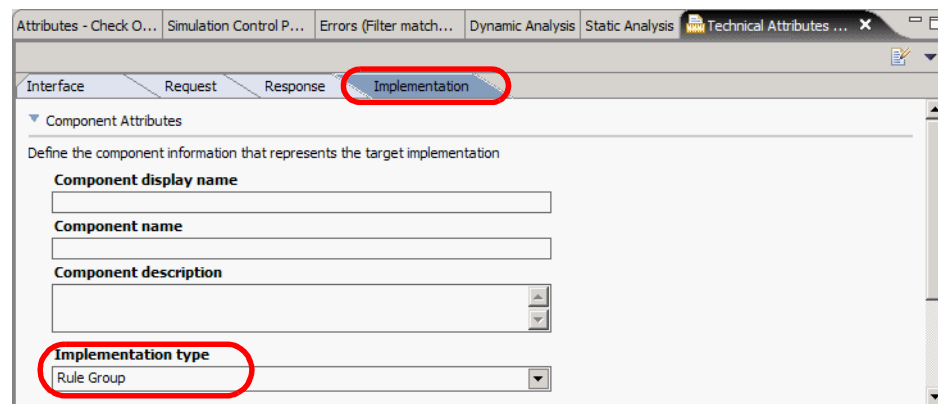

Figure 6-29 Check Order Handling Policy: Implementation type
- ▶ In the Technical Attributes view select the *Implementation* tab (Figure 6-29).
- ▶ Select *Human Task* for the Implementation type (similar to Figure 6-29 on page 112).
- ▶ Select *Java* for the Implementation type (similar to Figure 6-29 on page 112).